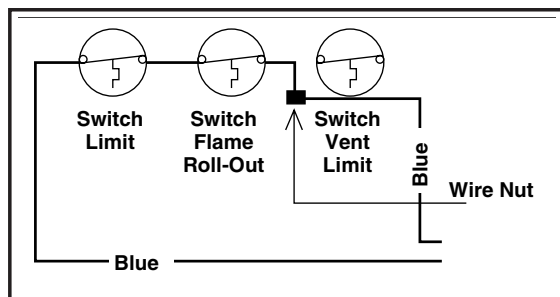

Figure 11. Limit Circuit Wiring
3. Bypass the vent switch by removing both wires from the vent switch and attaching them to the wire nut. (See Figure 11.)